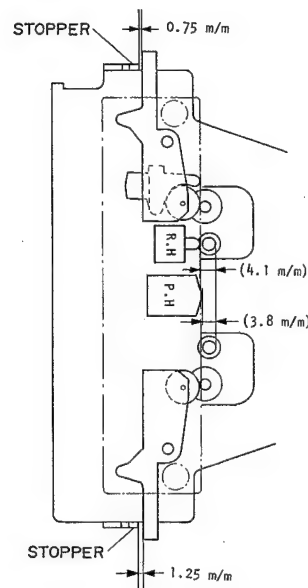

Fig. 5.17 Pressure Roller Adjustment
- (1) Check to insure whether any of the heads is not in contact with the cassette housing.
- (2) Check to insure whether the pressure roller is located in parallel with the capstan shaft (Also check to insure whether the heads are free from dust or dirt, and whether the pressure roller arm is free from bending).
- (3) Check to insure whether the surface of the pressure roller is globular, not straight. Other than the above, concaved, or oiled surface shall be subject to replacement.
- (4) The pressure of the pressure roller shall be $400 \text{ g} \pm 50 \text{ g}$.
- (5) Adjustment of Pressure Roller Timing.
- a. Refer to Fig. 5.17.